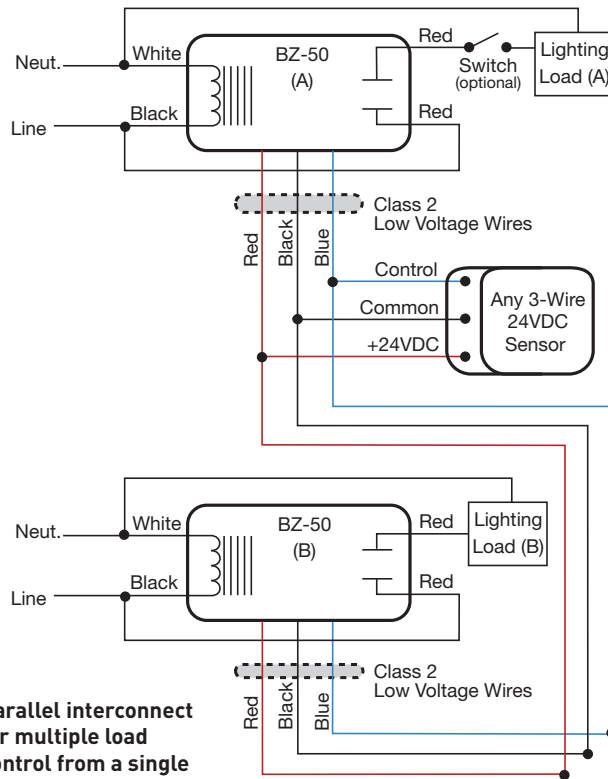

Fig. 2: Parallel interconnect for multiple load control from a single sensor
2. Connect wires as shown in Fig.1 or Fig. 2.